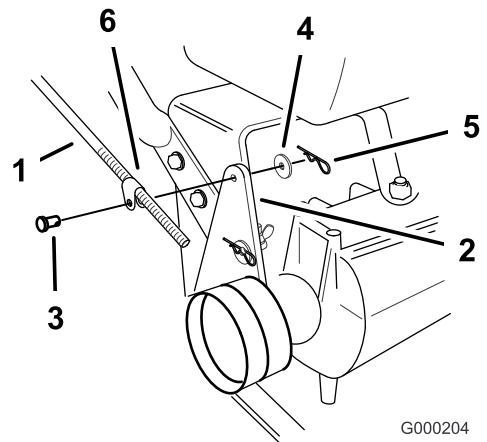

Figure 18
1. Remove the hairpin cotter, washer, and clevis pin securing the control rod fitting to the idler bracket (Figure 18).